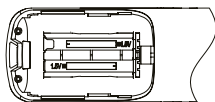

fig. 8
3) Take out the old batteries. Install two new AAA batteries according to the positive and negative polarities indicated (see “fig. 8”). Close the battery cover.